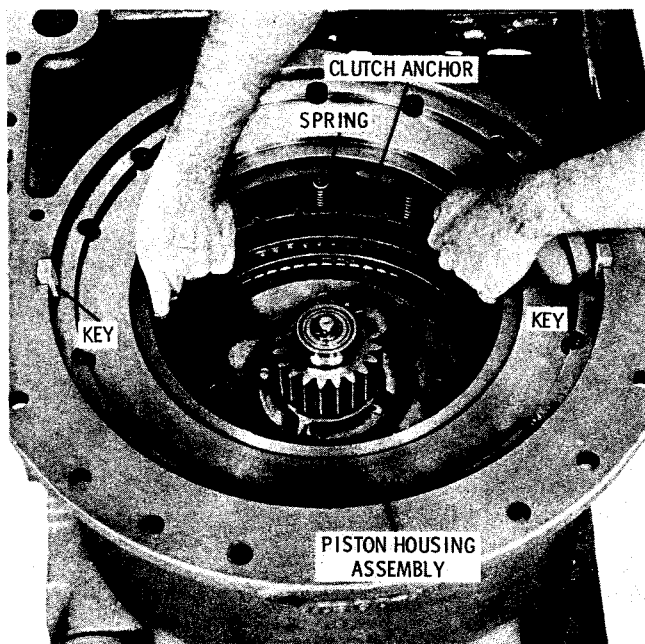

Fig. 5-68. Removing intermediate-range clutch piston housing and piston S1613
(7) Remove the intermediate-range clutch piston and piston housing assembly (fig. 5-68) and two anchor keys. Refer to paragraph 6-25 for rebuild of the piston. Remove 14 intermediate-range piston return springs. Remove the intermediate-range clutch anchor.